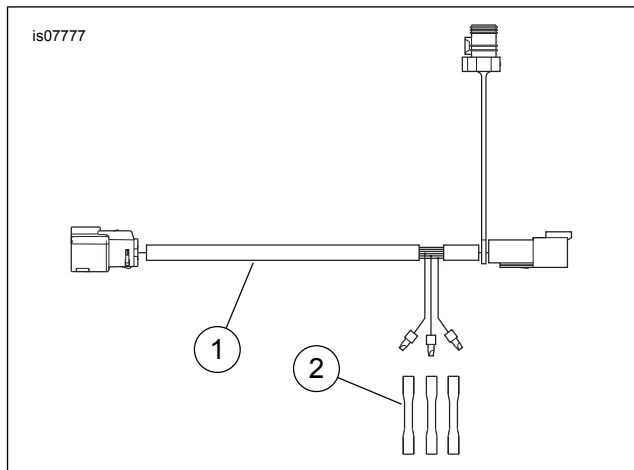

Figure 1. Service Parts, Electrical Connection Harness
See Figure 1 and Table 1.
- Accessories with a four-way Deutsch socket power connection** plug directly into the Electrical Connection Harness or Electrical Accessory Adapter. **Accessories connecting to power with three individual wires:** See Figure 1. Cut the wires of the accessory (or accessories) to a suitable length to reach the three individual wires on the Electrical Connection Harness easily. Cut the wire caps from the three wires on the harness.